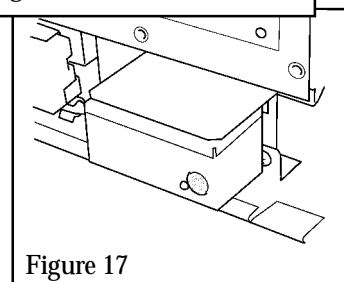

Figure 17
- Place the remote control receiver on the “Velcro” pad in front of the battery shield. See figure 17.